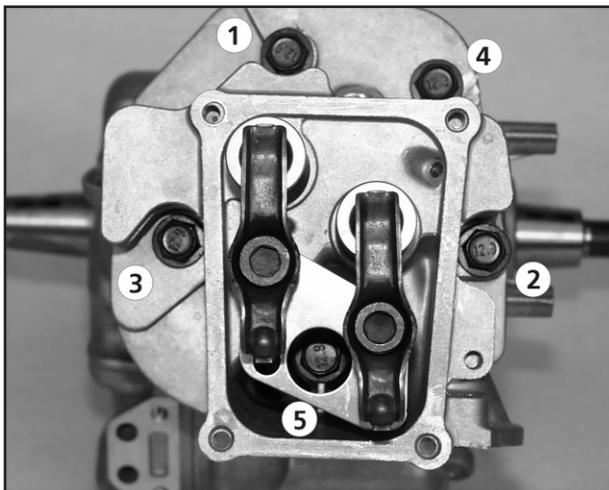

Figure 9.13 — Head Bolt Tightening Sequence
4. Install the cylinder head bolts and tighten them in the sequence shown in Figure 9.13 and to the first torque specification listed below. Then, tighten in the same sequence again to the second torque specification.